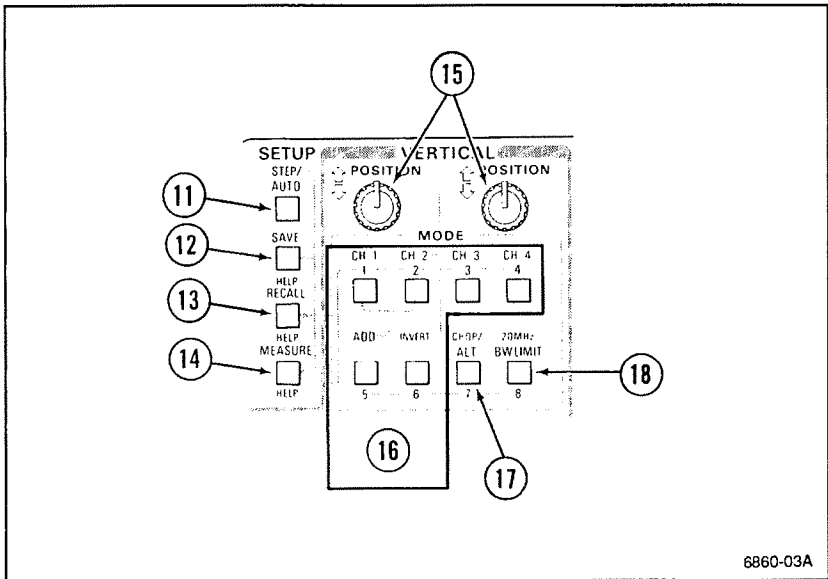

Figure 5-2. SETUP and MODE buttons, and CH 1 and CH 2 POSITION controls.
Refer to Figure 5-2 for the location of items 11 through 18.